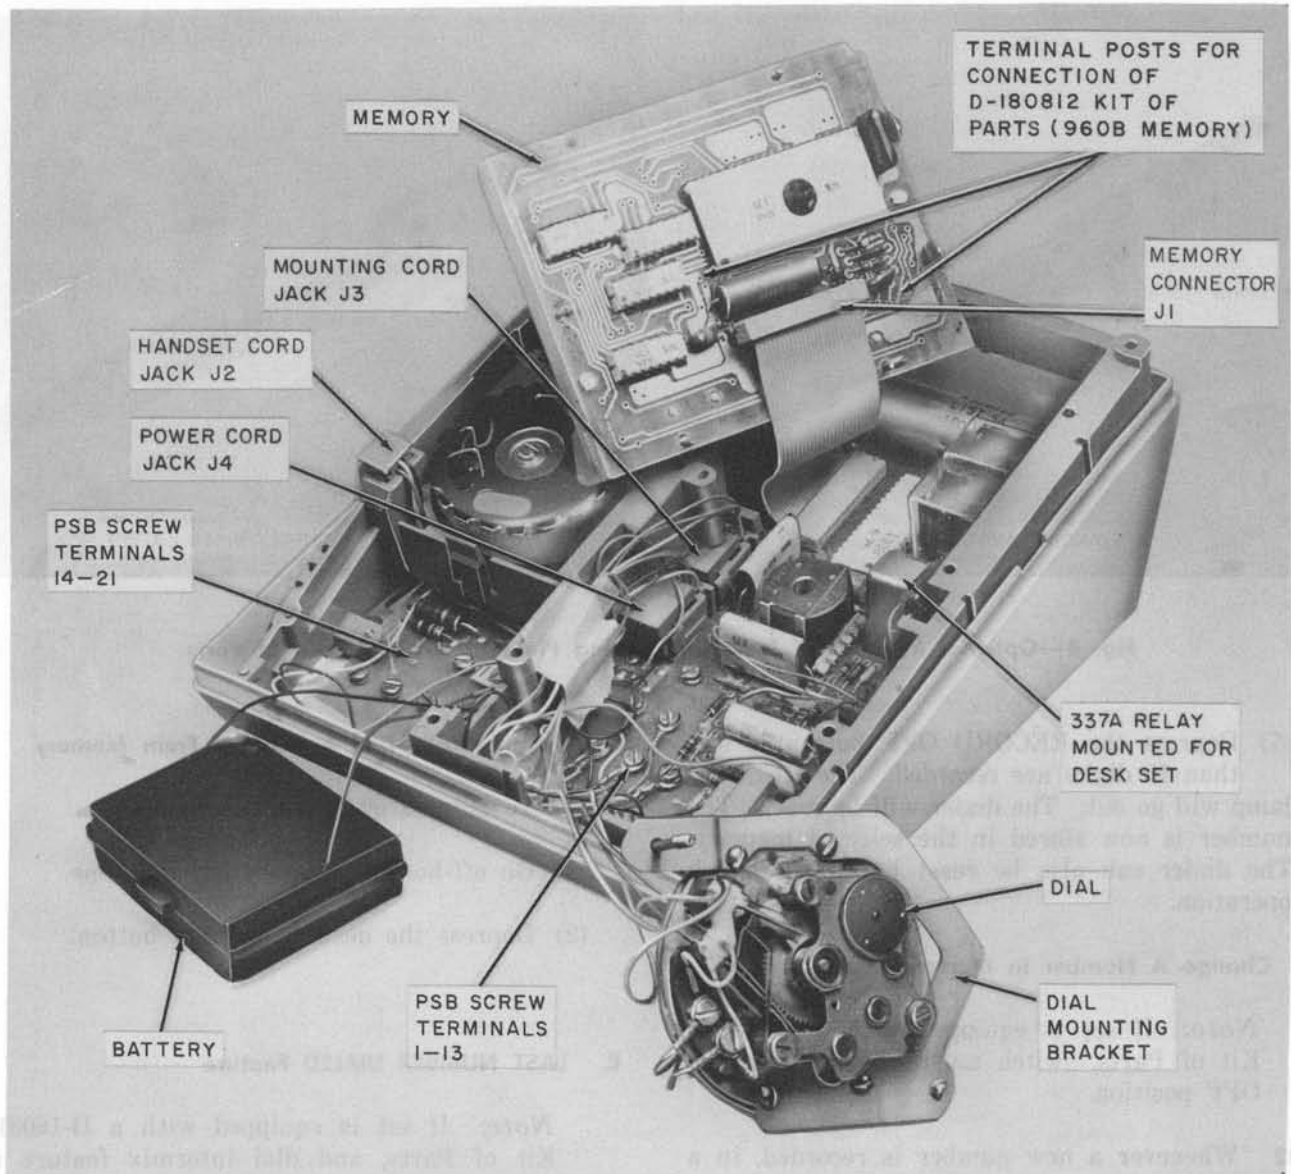

Fig. 6—960A01M Chassis and Lower Housing With Dial, Memory, and Battery Laid Aside, and Shield Removed
- (8) Rotate the right edge of the memory upward (Fig. 6) and connect the three leads to the terminal posts on the 960B Memory per Table D.
- (5) Rotate the right edge of the memory upward.
- (6) Disengage the connector at the memory (Fig. 6) by pulling it perpendicular to the circuit board.
- (7) Replace the memory by engaging the connector. The connector is keyed, one position is filled and should fit over the vacant position in the row of pins. The cable should not be twisted.
- (8) Tighten the four captive screws.
- (9) Replace the shield and faceplate.
- (10) Test per paragraph 3.12.
- (11) Place the old memory in shipping container of the new memory (carton 900314535), affix a defective label and return to the repair location.